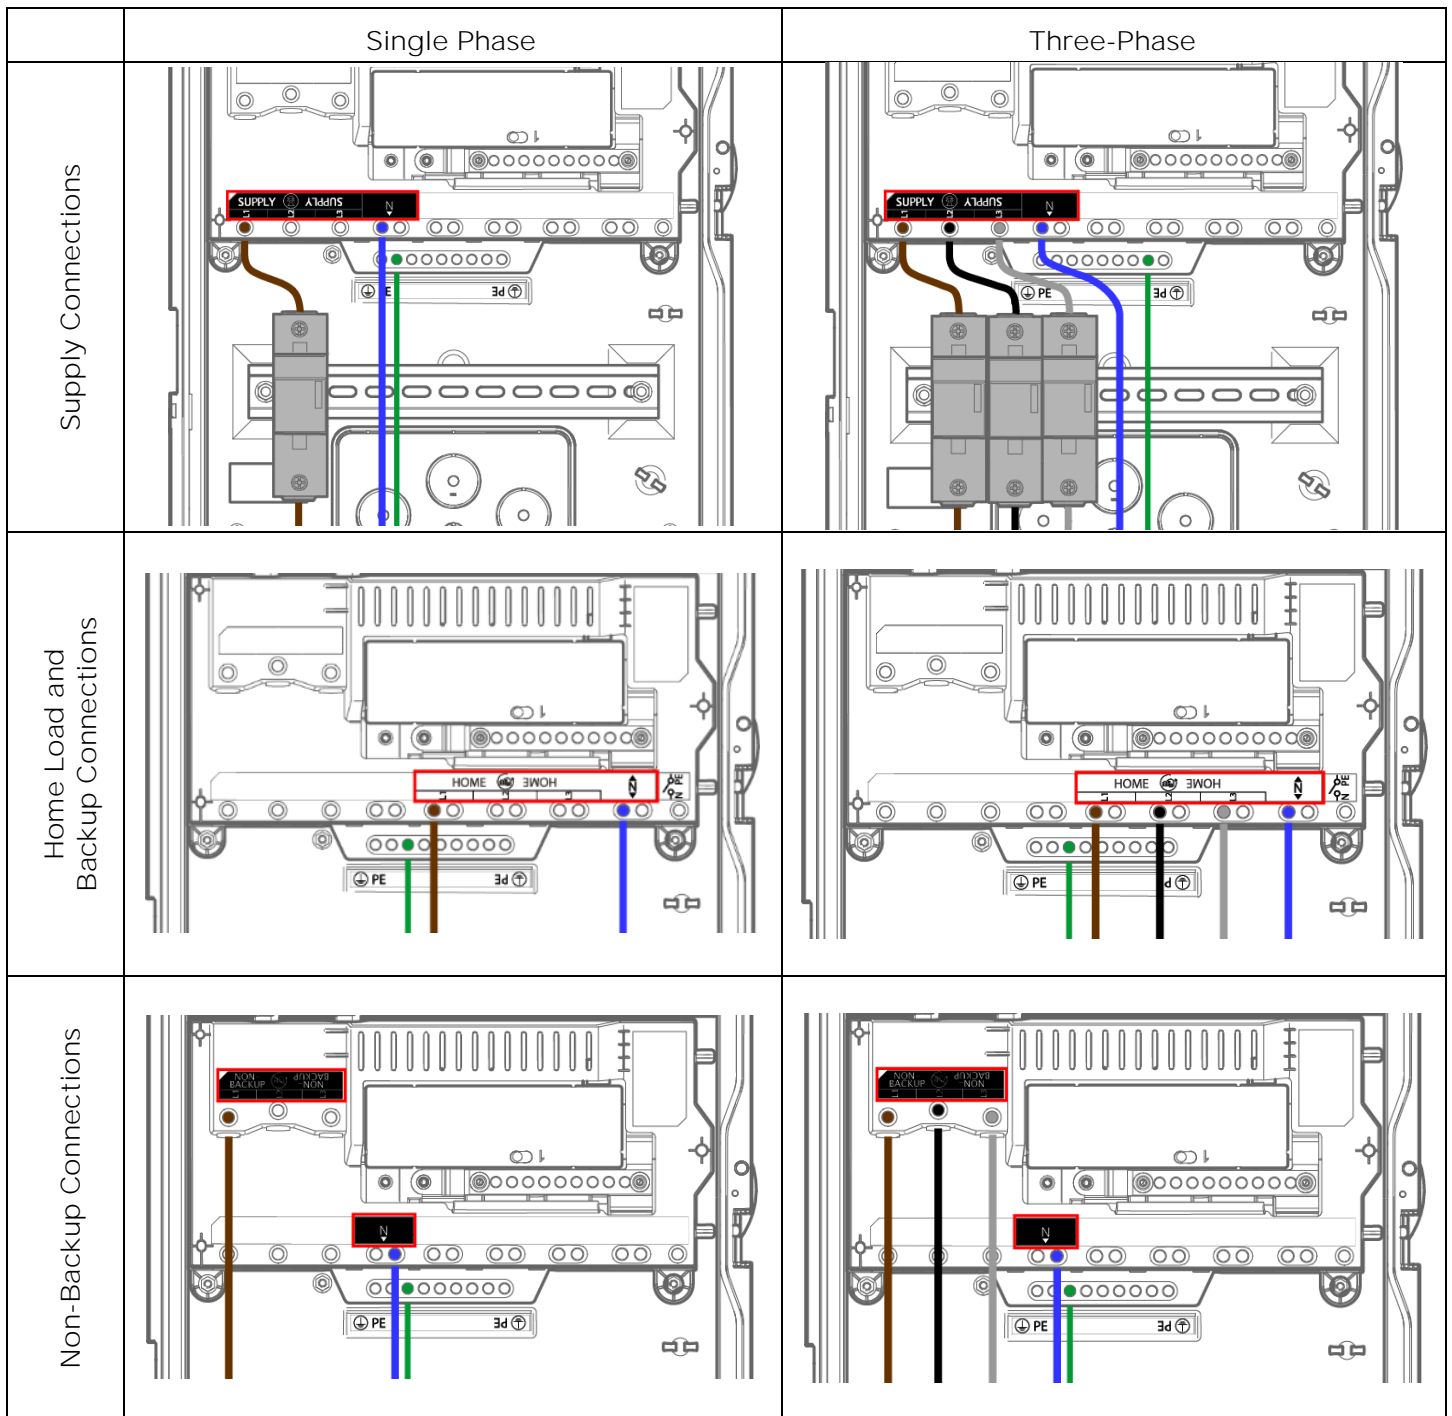

Figure 10: Conductor Connections for Single Phase (left) and Three-Phase (right)
2. Connect the main service conductors to the Backup Gateway Supply terminals according to Figure 10 and the accompanying table.
3. Connect the home load panel conductors to the Backup Gateway Backup terminals according to Figure 10 and the accompanying table.
5. Connect the non-backup panel conductors to the Backup Gateway Non-Backup terminals according to Figure 10 and the accompanying table. Any circuits connected here will not be powered when disconnected from the grid. During on-grid operation, these circuits are still metered by the internal site metering with no additional metering hardware required.